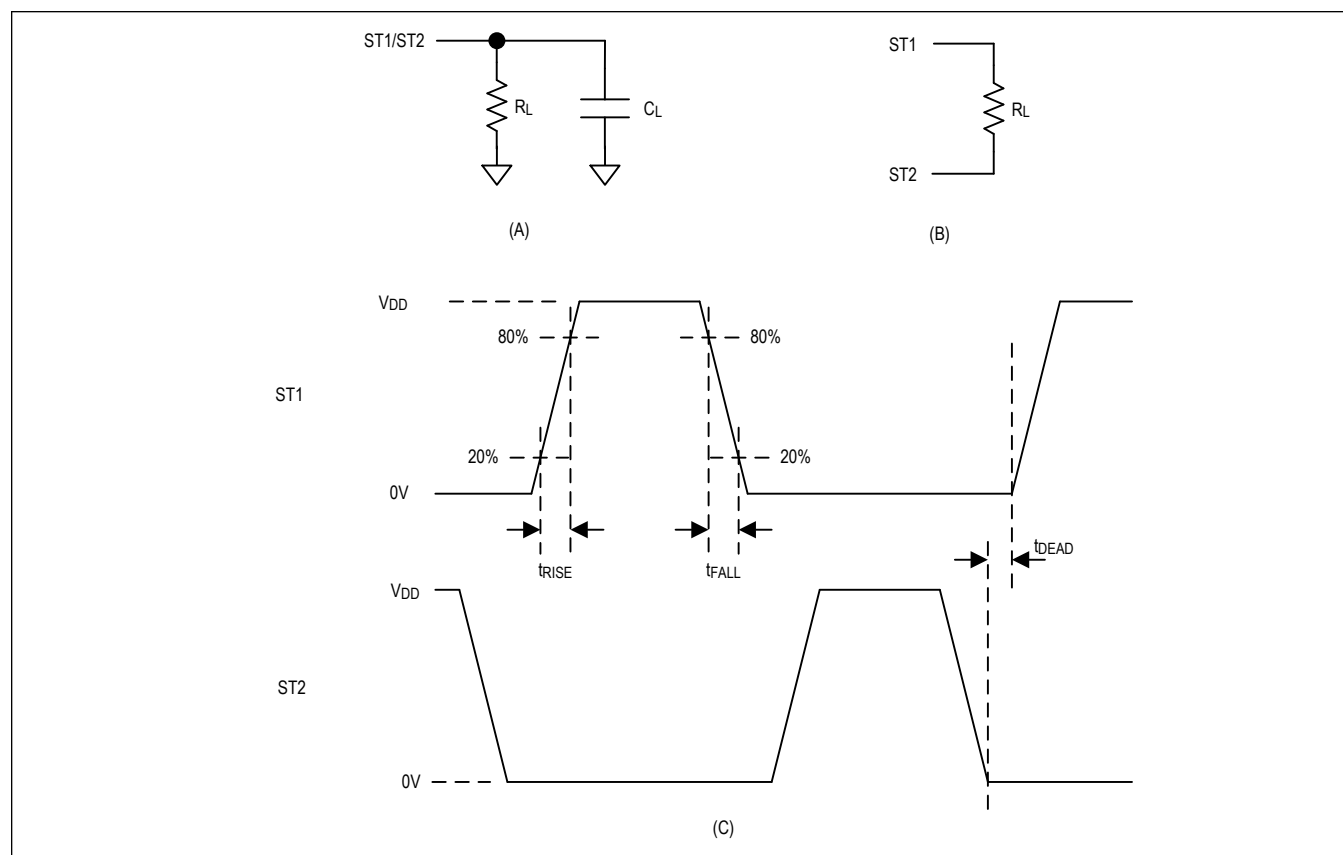

Figure 1. Test Circuits (A and B) and Timing Diagram (C) for Rise, Fall, and Dead Times
| Figure 1. Test Circuits (A and B) and Timing Diagram (C) for Rise, Fall, and Dead Times | 9 |
| ST1/ST2 Rise Time | t _{RISE} | ST1/ ST2 = 20% to 80% of V _{DD} , R _L = 1kΩ, C _L = 50pF, Figure 1 | | | 100 | ns |
| ST1/ST2 Fall Time | t _{FALL} | ST1/ST2 = 80% to 20% of V _{DD} , R _L = 1kΩ, C _L = 50pF, Figure 1 | | | 100 | ns |
| Crossover Dead Time | t _{DEAD} | R _L = 200Ω, Figure 1 | | 30 | | ns |